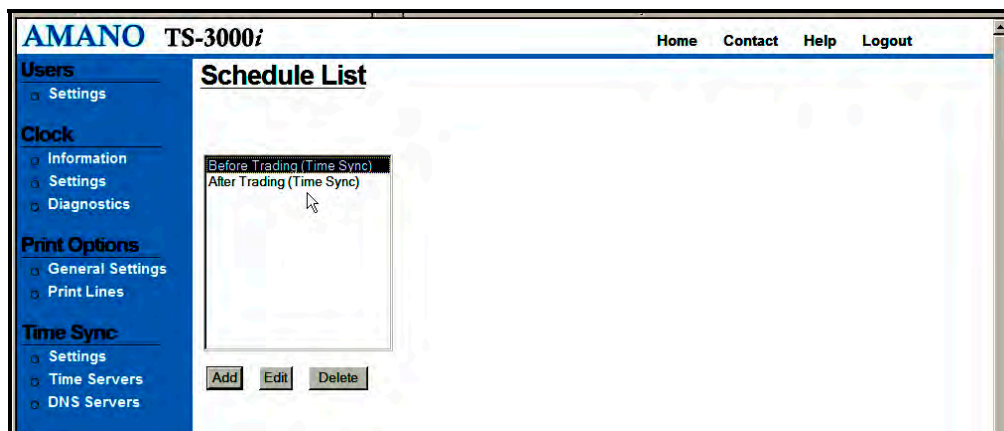

Figure 4-20. Schedule List.
Step 1. Click on the Schedules link under Scheduling, and the **Schedule List** screen will appear (see *Figure 4-20*).